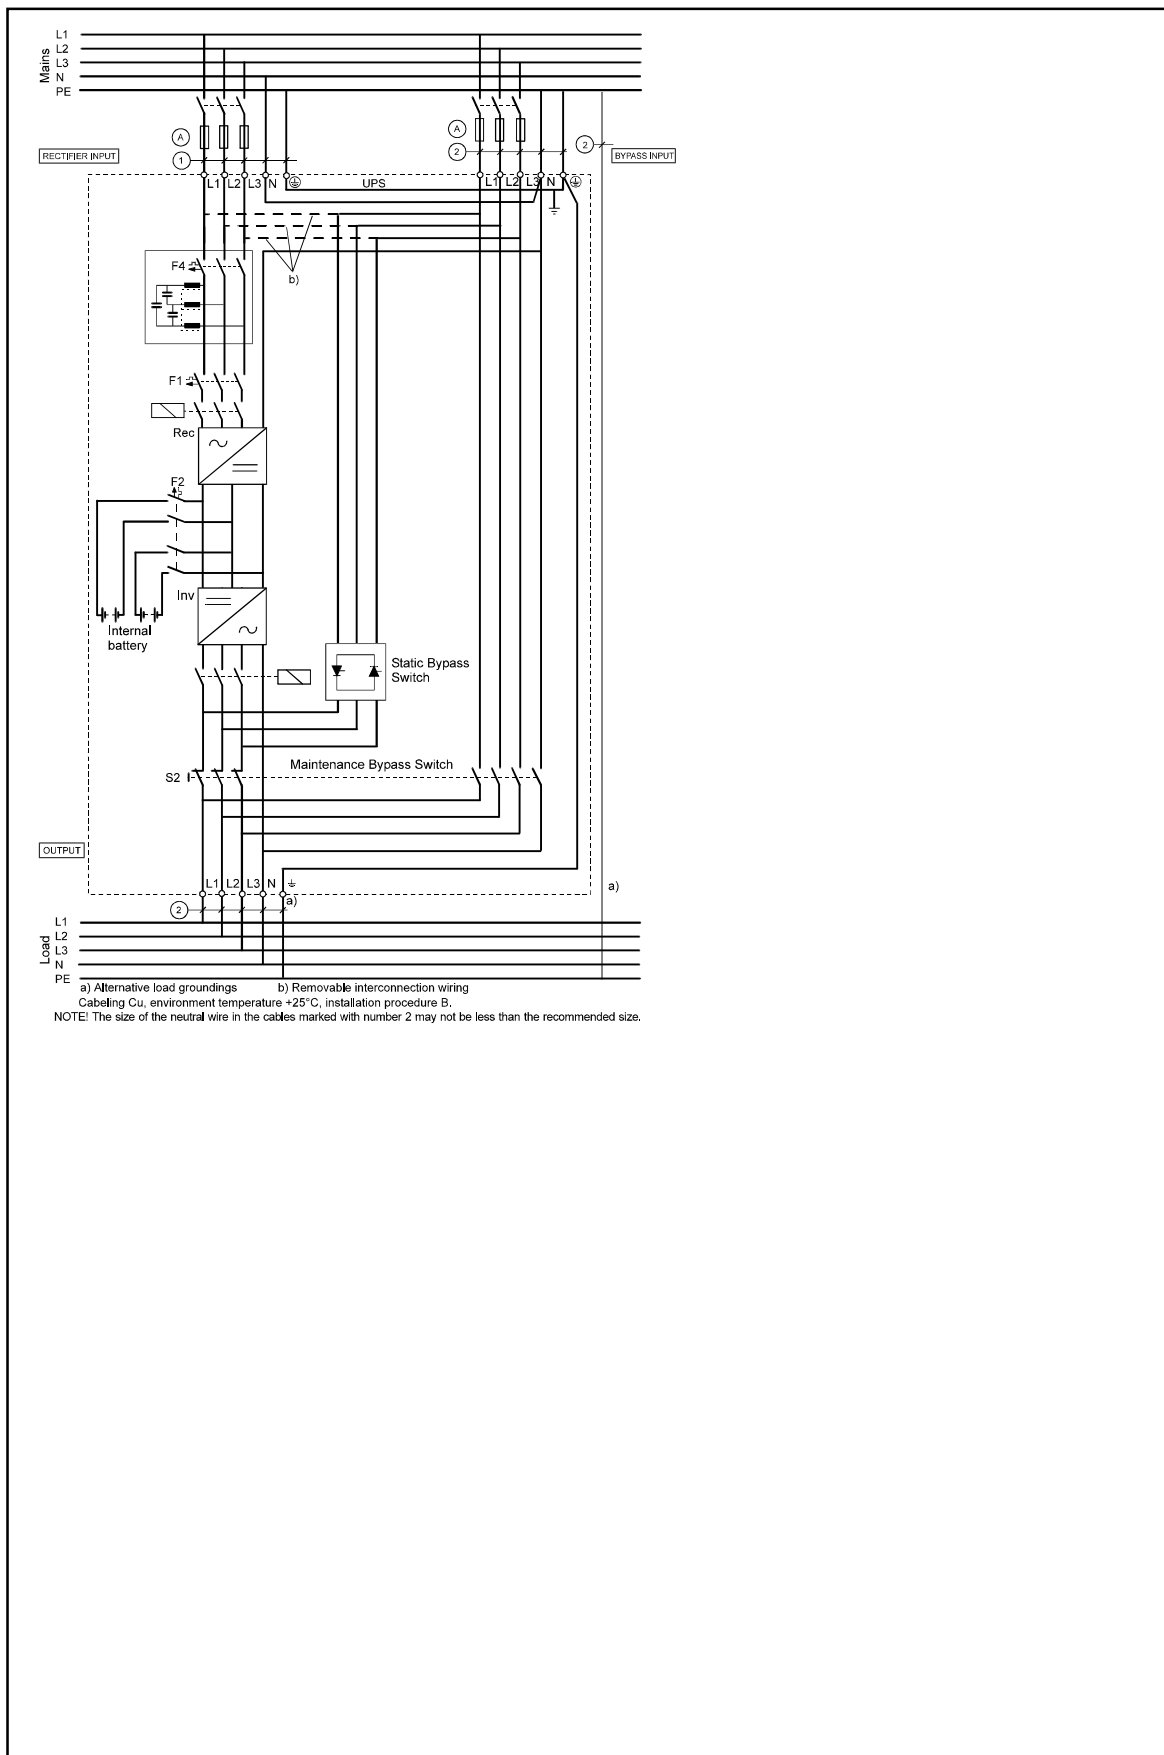

Fig. 3. Five-wire installation of UPS units from 7.5 to 15 kVA with two-cable input.
1. Check that electrical connections to the installation site have been properly executed. Also check fuse or circuit breaker ratings and cable dimensions against figure 3 or 4. The figure depends on if you use two cable or single-cable input.
5. The UPS should be connected in accordance with figure 3 or 4. The figure depends on if you use two-cable or single-cable input.
**Table 2. Fuse and cable dimensions for five wire installations of UPS units 7.5 to 15 kVA using two-cable input. Note that the fuse letters and the cable numbers refer to the letters/numbers in figure 3.**